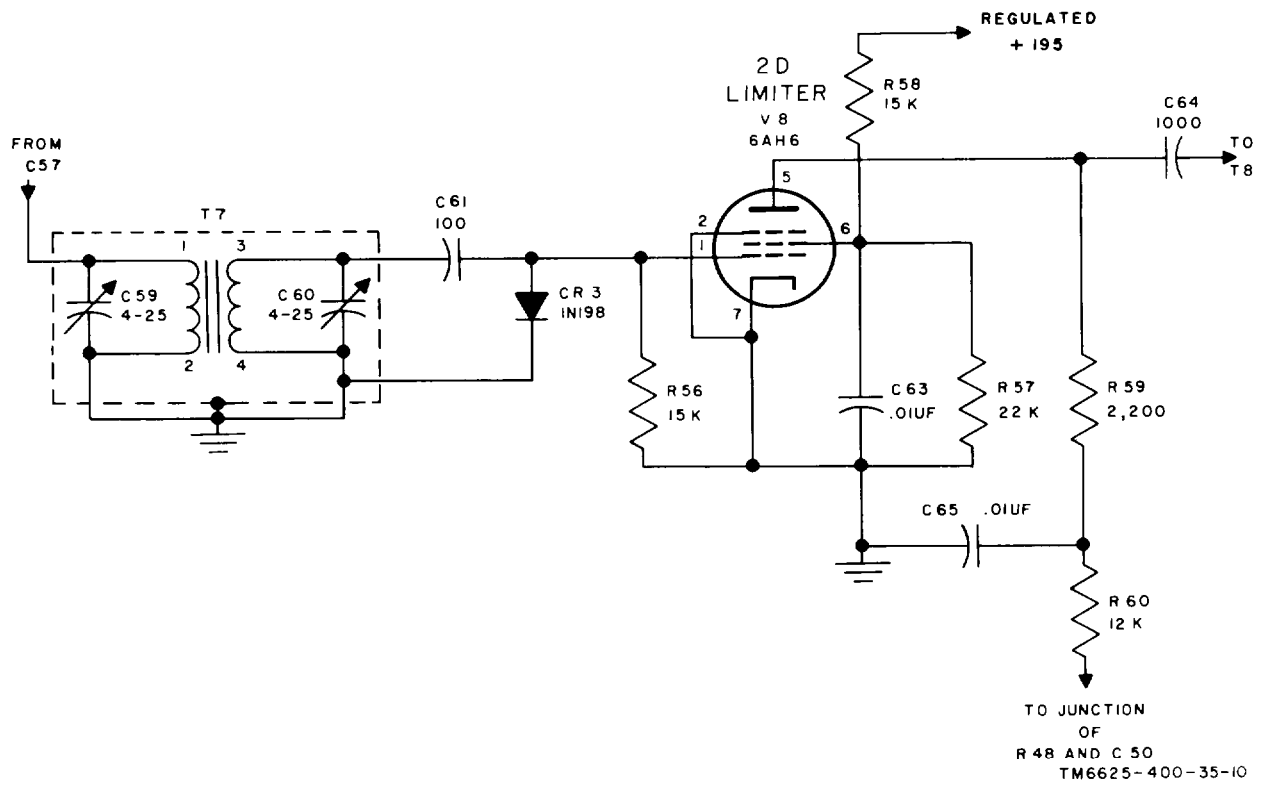

Figure 10. Second limiter. schematic diagram.
b. Tube V8 (fig. 10) is the second limiter stage. Signals from V7 are coupled through T7 to the grid of V8. Capacitors C59 and C60 tune T7. Capacitor C61 is a dc blocking capacitor between the grid and T7. Crystal diode CR3 improves the rectification efficiency of the grid circuit of V8 by acting as a shunt for the cathode-to-grid path of V8. The grid return for V8 is through R56. Screen voltage for V8 is obtained from divider comprised of R57 and R58, which is bypassed by C63. The plate load for V8 is R59. Resistor R60 and capacitor C65 provide supply voltage decoupling. Capacitor C62 (fig. 32) is the filament bypass. Capacitor C64 provides coupling from the plate of V8 to T8.